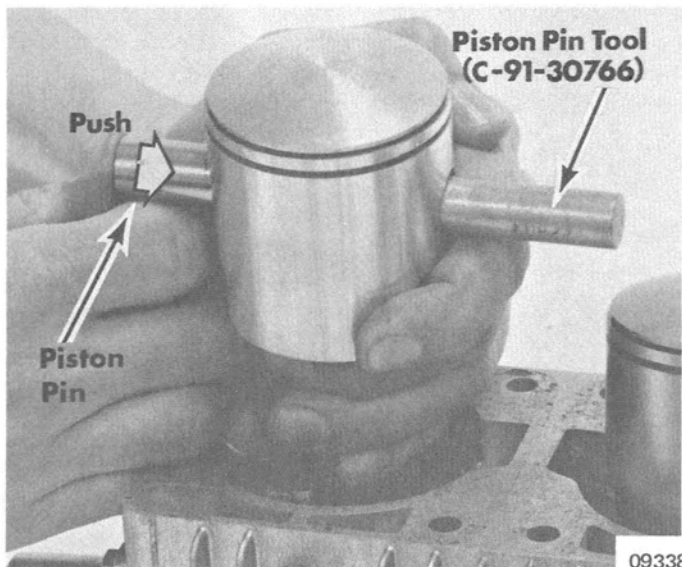

Figure 6. Installing Pistons
3. Install each piston pin, using Piston Pin Tool (C-91-30766A1) as a guide. (Figure 6)